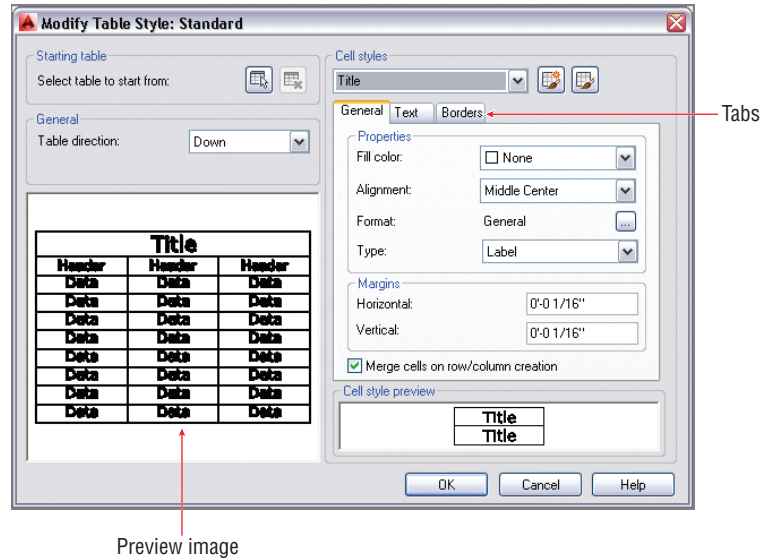

FIGURE 15.16 Modifying the margins around the Title cell style
- In the Modify Table Style: Standard dialog box that appears, open the Cell Styles drop-down menu and select Title. Select the General tab if it is not already selected. Double-click in the Horizontal text box in the Margins area. Type **1/16"** (or **0.20 cm**), press Tab, and type **1/16"** (or **0.20 cm**) to specify an equal vertical margin (see Figure 15.16).